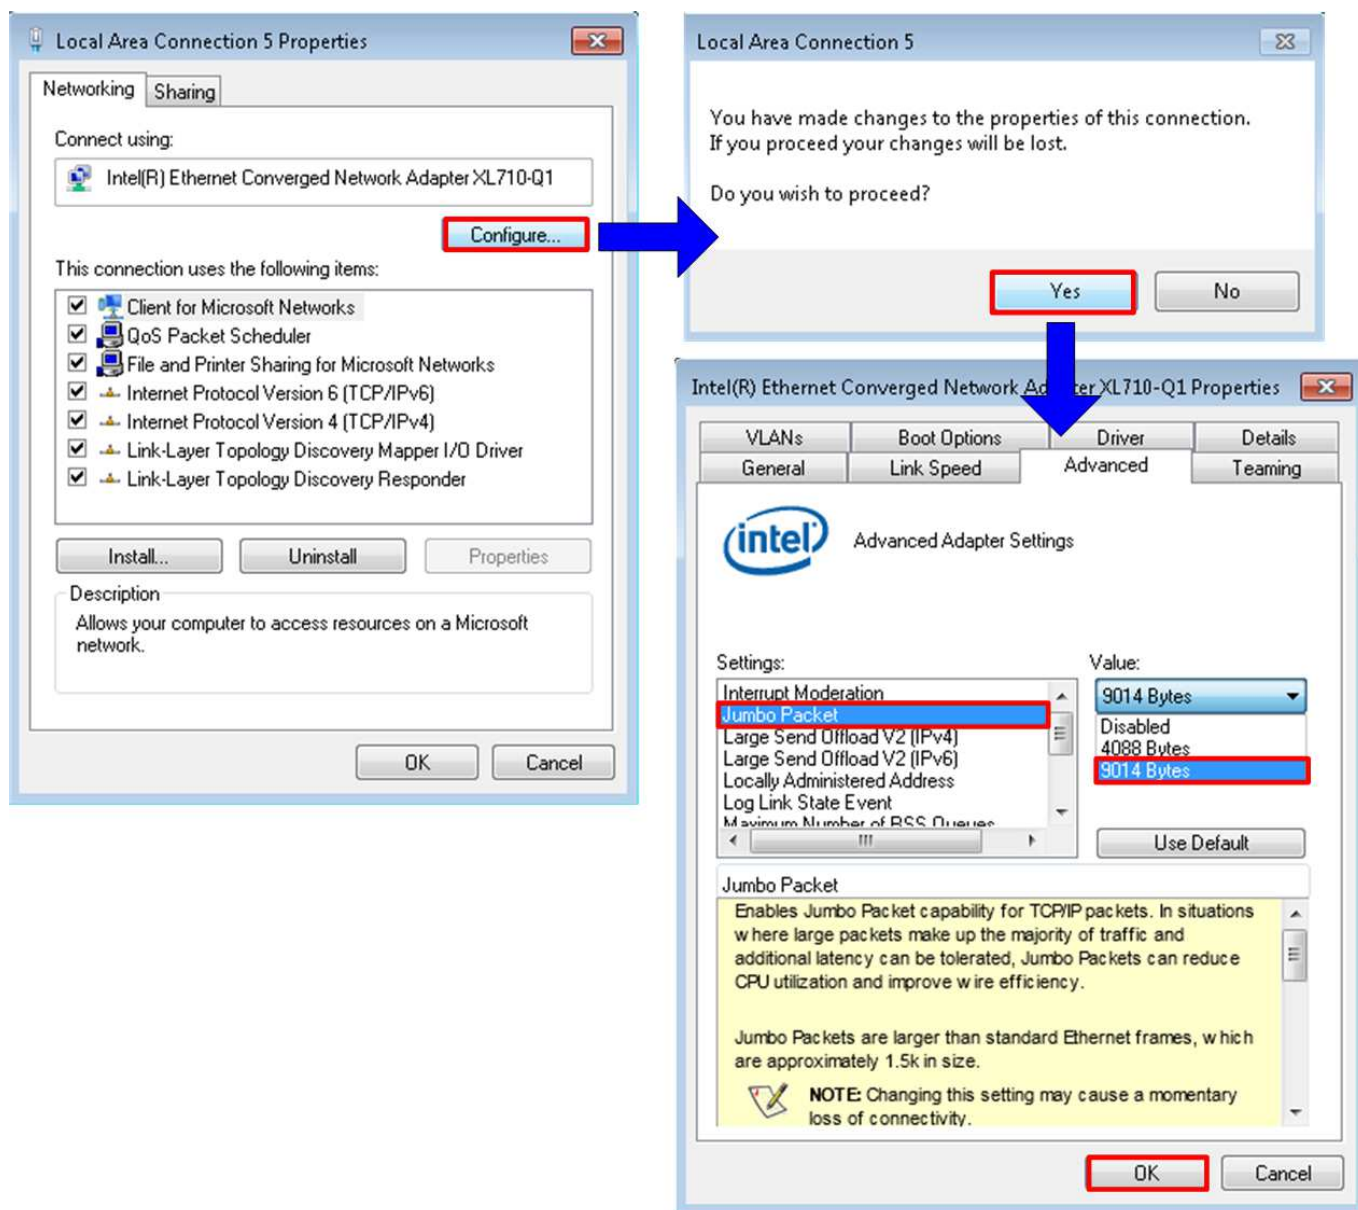

Figure 3-2 Set frame size = jumbo frame
- 1) On Local Area Connection Properties window, click “Configure” as shown in Figure 3-2.
- 2) On Advanced Tab, select “Jumbo Packet”. Set Value to “9014 Bytes” for Jumbo Frame support or set value to “Disabled” for non-Jumbo Frame support, as shown in bottom window of Figure 3-2.